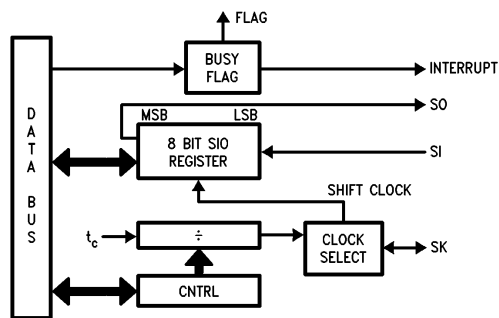

FIGURE 12. MICROWIRE/PLUS Block Diagram
MICROWIRE/PLUS is a serial synchronous communications interface. The MICROWIRE/PLUS capability enables the device to interface with any of National Semiconductor's MICROWIRE peripherals (i.e. A/D converters, display drivers, E2PROMs etc.) and with other microcontrollers which support the MICROWIRE interface. It consists of an 8-bit serial shift register (SIO) with serial data input (SI), serial data output (SO) and serial shift clock (SK). Figure 12 shows a block diagram of the MICROWIRE logic.